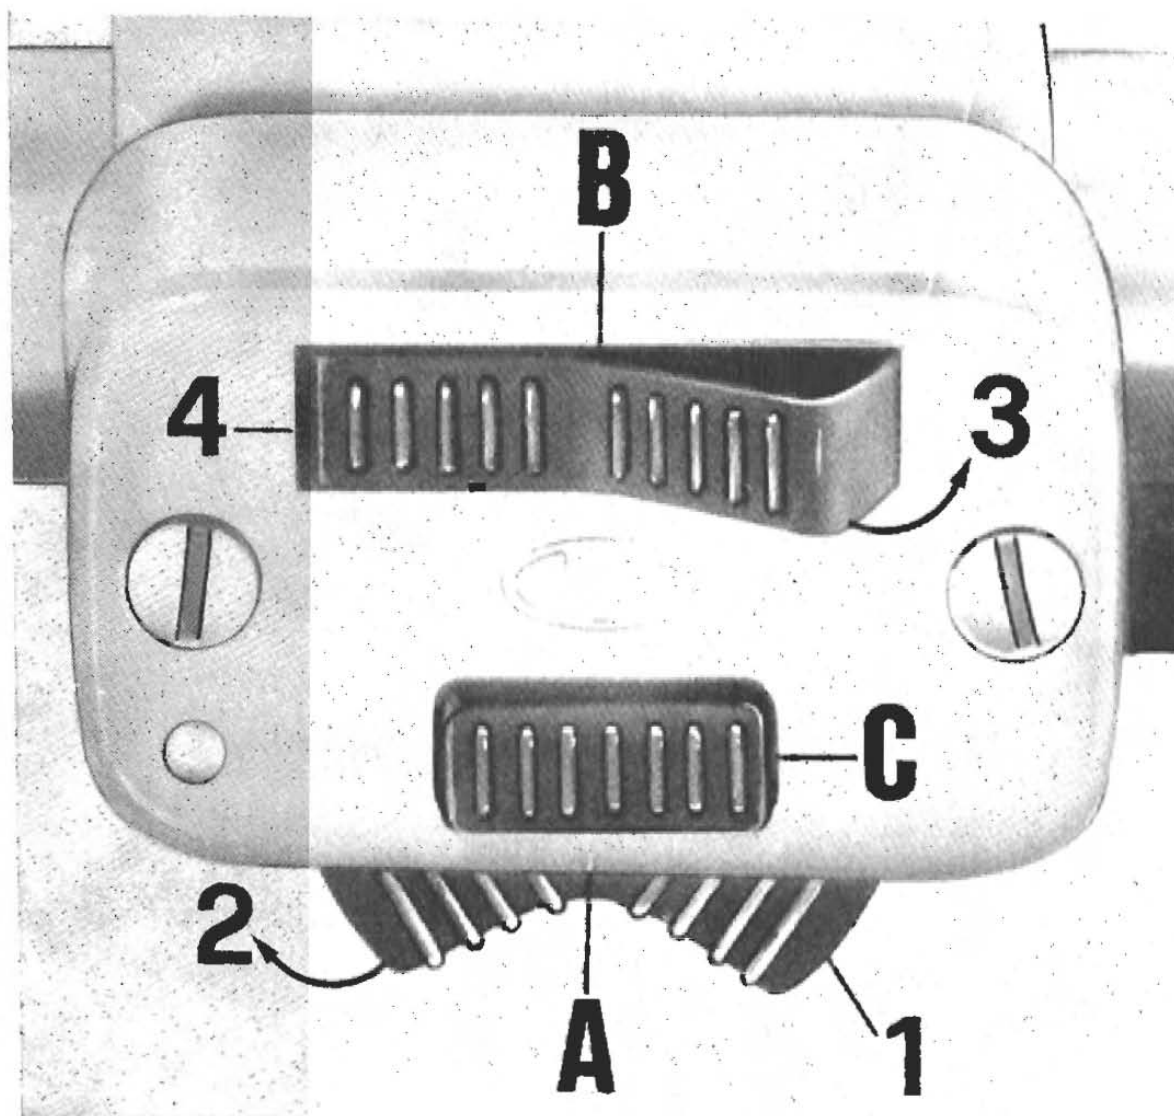

Fig. 9
- « 2 » Running position or machine ready to set out. For daylight driving no other position necessary. For night driving, the left hand handlebar switch must be actuated (Fig. 9).
(Fig. 9)